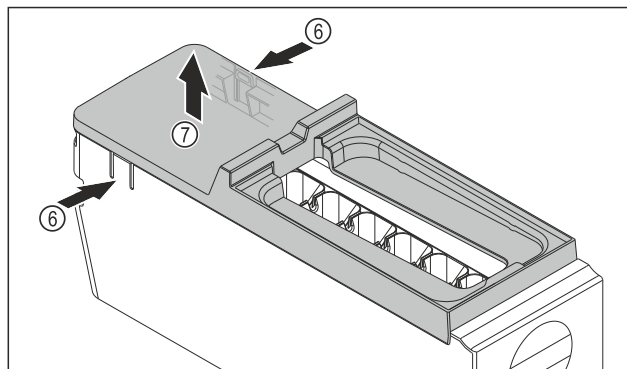

Fig. 172
- Removing the EasyTwist-Ice body cover: Push the tabs Fig. 172 (6) on both sides of the EasyTwist-Ice body with one hand.
- Use the other hand to remove the cover Fig. 172 (7) upwards.